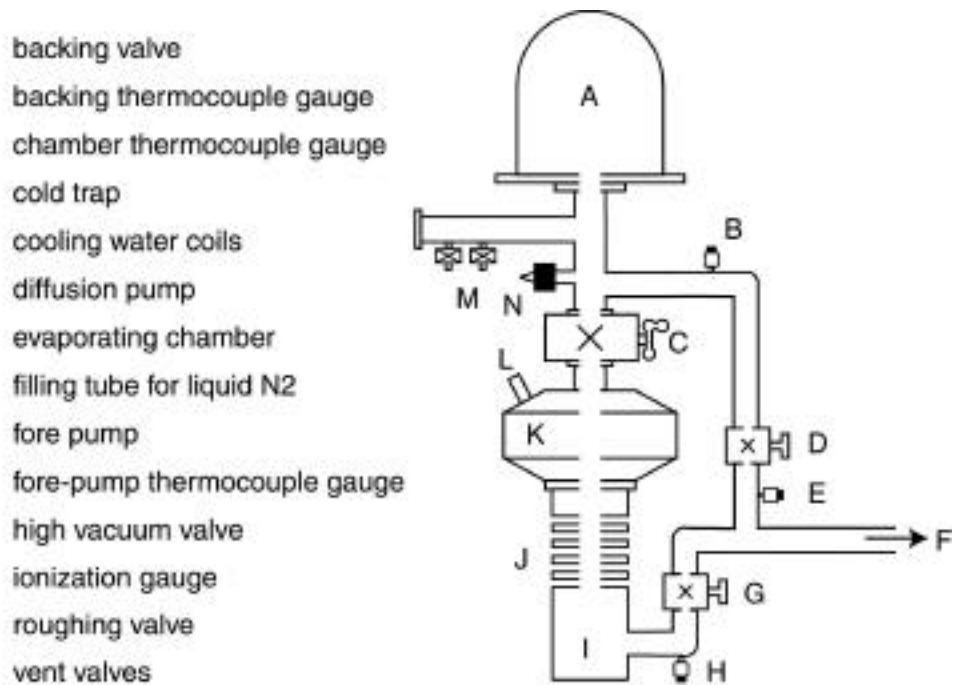

Figure 2. Schematic of the high vacuum system for vapor deposition. Write the appropriate letter next to each label on the figure.
- A. Figure 2 shows the various parts of the vapor deposition system. Read through the instructions below once quickly to get an idea of what you will be doing. Come back to this figure and talk yourself through the